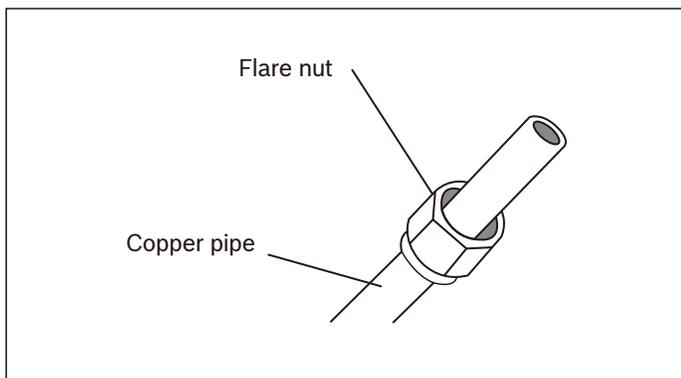

Figure 29
3. Place flare nuts on both ends of pipe. Make sure they are facing in the proper direction, because you can't put them on or change their direction after flaring. See Fig. 29.